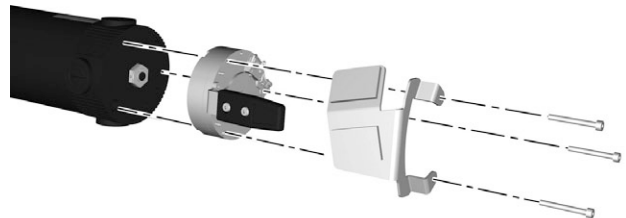

Figure 64. The magnetic wheel lock is fitted with three screws.
6. Remove the magnetic wheel lock, it's fitted with three screws. See fig. 64.